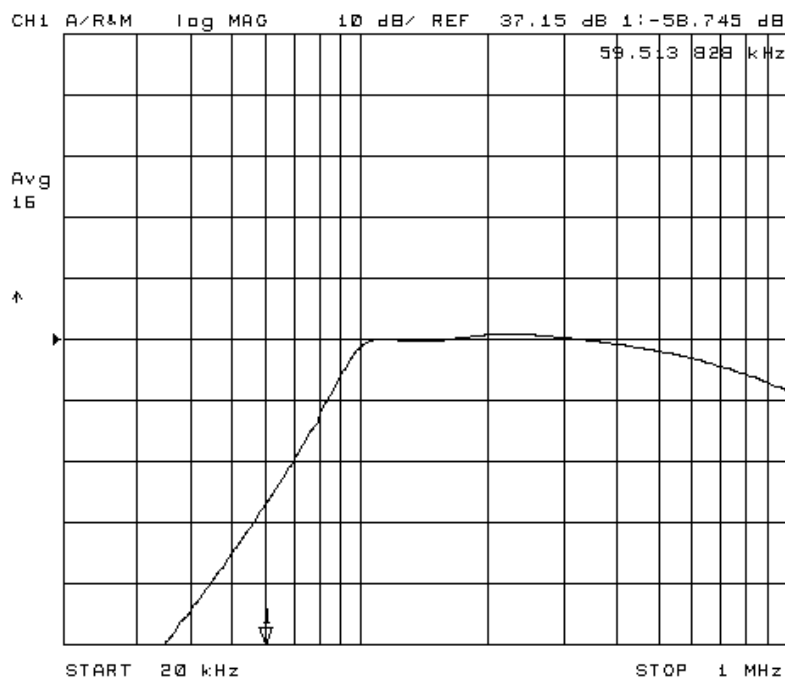

Figure 9: AE sensor filter frequency response
4. The acoustic amplifier has the total 60 dB gain and 100 kHz – 600 kHz bandwidth (-3dB), see Figure 9. The 5-pole high pass filter is used to suppress low frequency noise, coming from servo loop, various mechanical components and switching power supply.